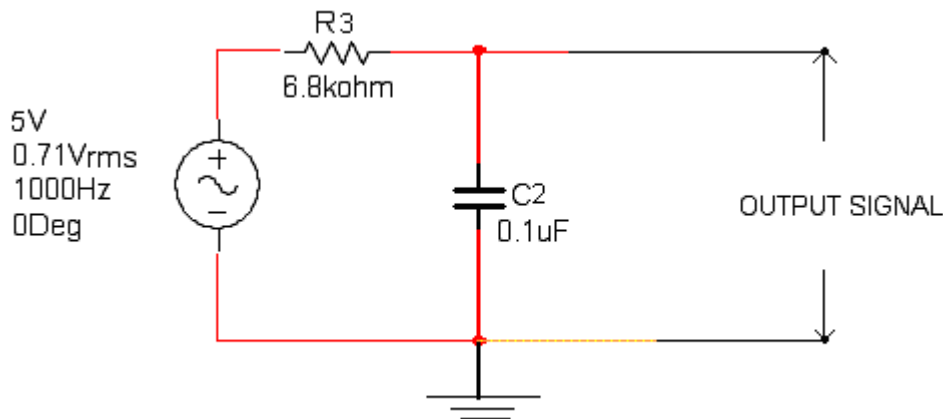

Figure 2: De-emphasis Circuit
5. Repeat above steps 2 to 4 for de-emphasis circuit (shown in Fig.2). by applying the sinusoidal signal of 5V as input signal.